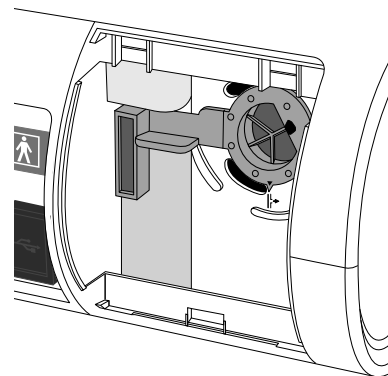

Fig. 14: Switching to leakage tube system
- For the use of a leakage tube system, place the switch, by gently lifting and turning, into the upper position (see Fig. 14).